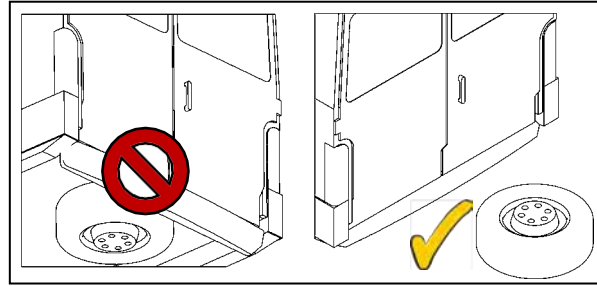

Figure 6
- If the vehicle has a spare tire between the rear axle and the rear bumper, remove the tire (see Fig. 6).